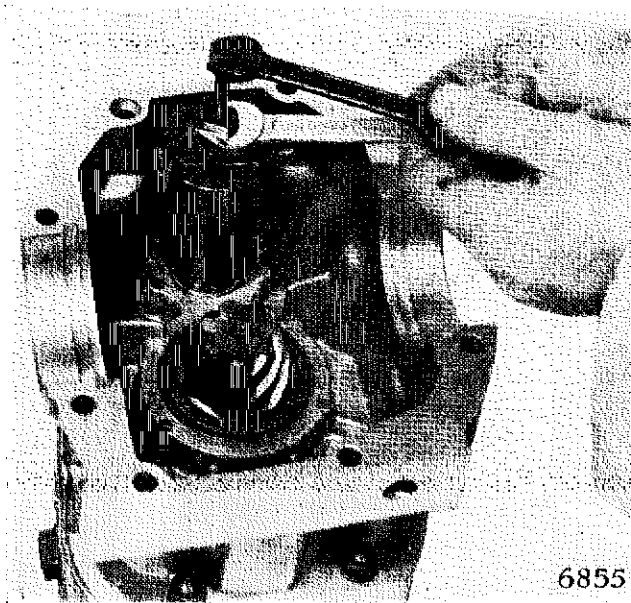

Fig. 16. *Extracting needle bearing inner race*
Withdraw input shaft inner needle roller race (39) using special extractor Tool No. R.G.368, as shown in Fig. 16.